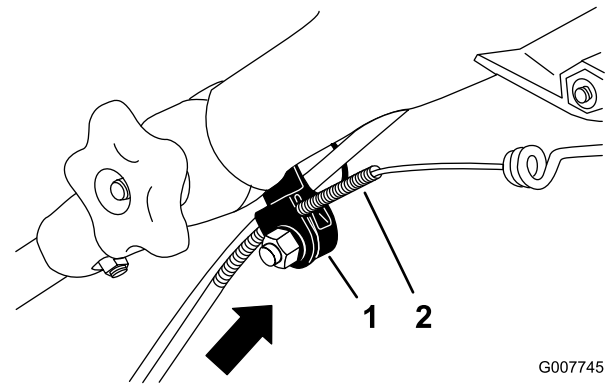

Figure 38
**Note:** You can place a ruler against the upper side of the black cable mount and measure how far the upper end of the cable jacket moves (Figure 38).